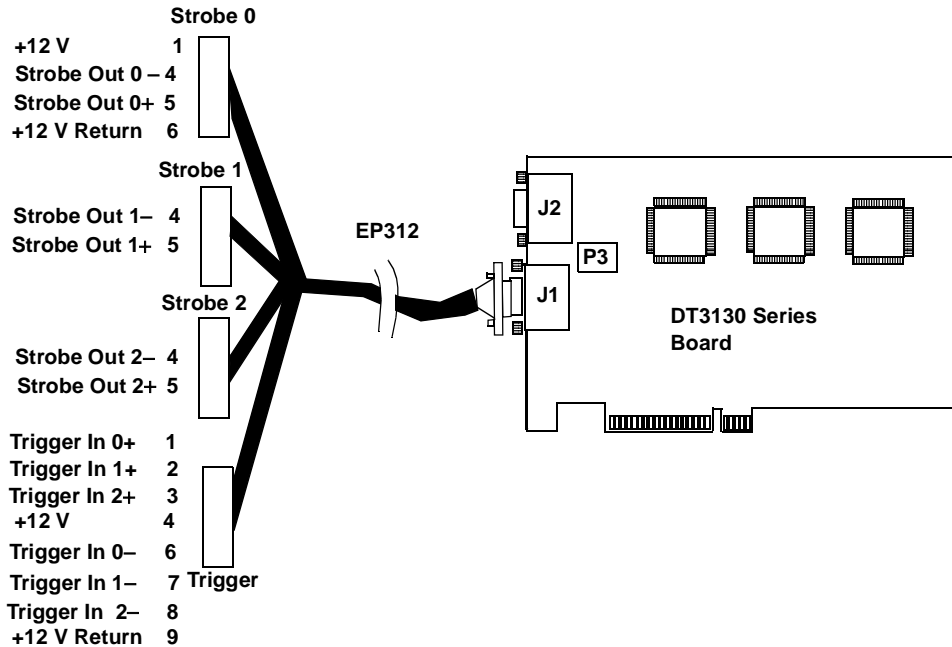

Figure 7: Connecting the EP312 Cable to Connector J1
1. After making sure power to the computer is off, push the 15-pin connector of one EP312 cable into the J1 socket at the rear of the DT3130 Series, as shown in Figure 7, and tighten the screws on the connector.